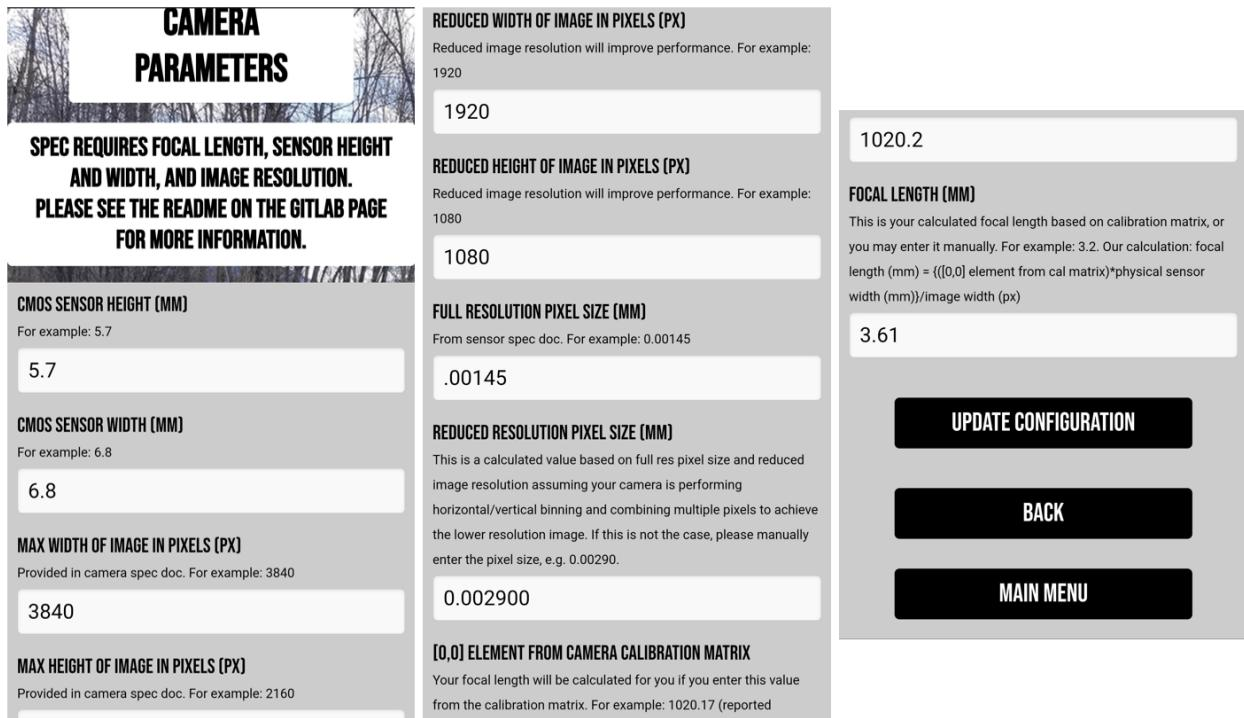

Figure 34. Camera Parameters page as seen from left to right.
- Proceed to Main Menu, Setup and Calibrations, and Camera Parameters as seen in Figure 34